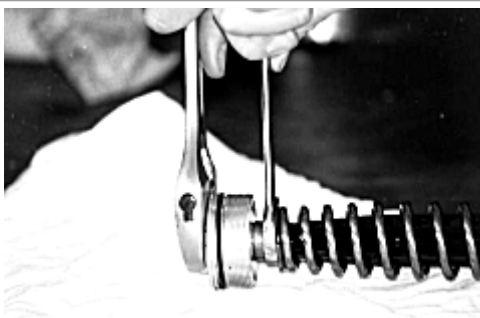

Fig 3
4. Push down the spring and put a 17 mm open end wrench on the lock nut. Remove the fork cap while holding on to the 17 mm wrench, **fig 3**. Remove the fork spring.